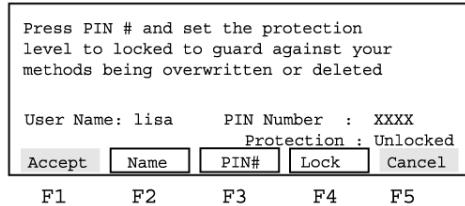

Figure 3-5. The Protection Status screen
5. Press **Enter**. This displays the Protection Status screen (Figure 3-5).